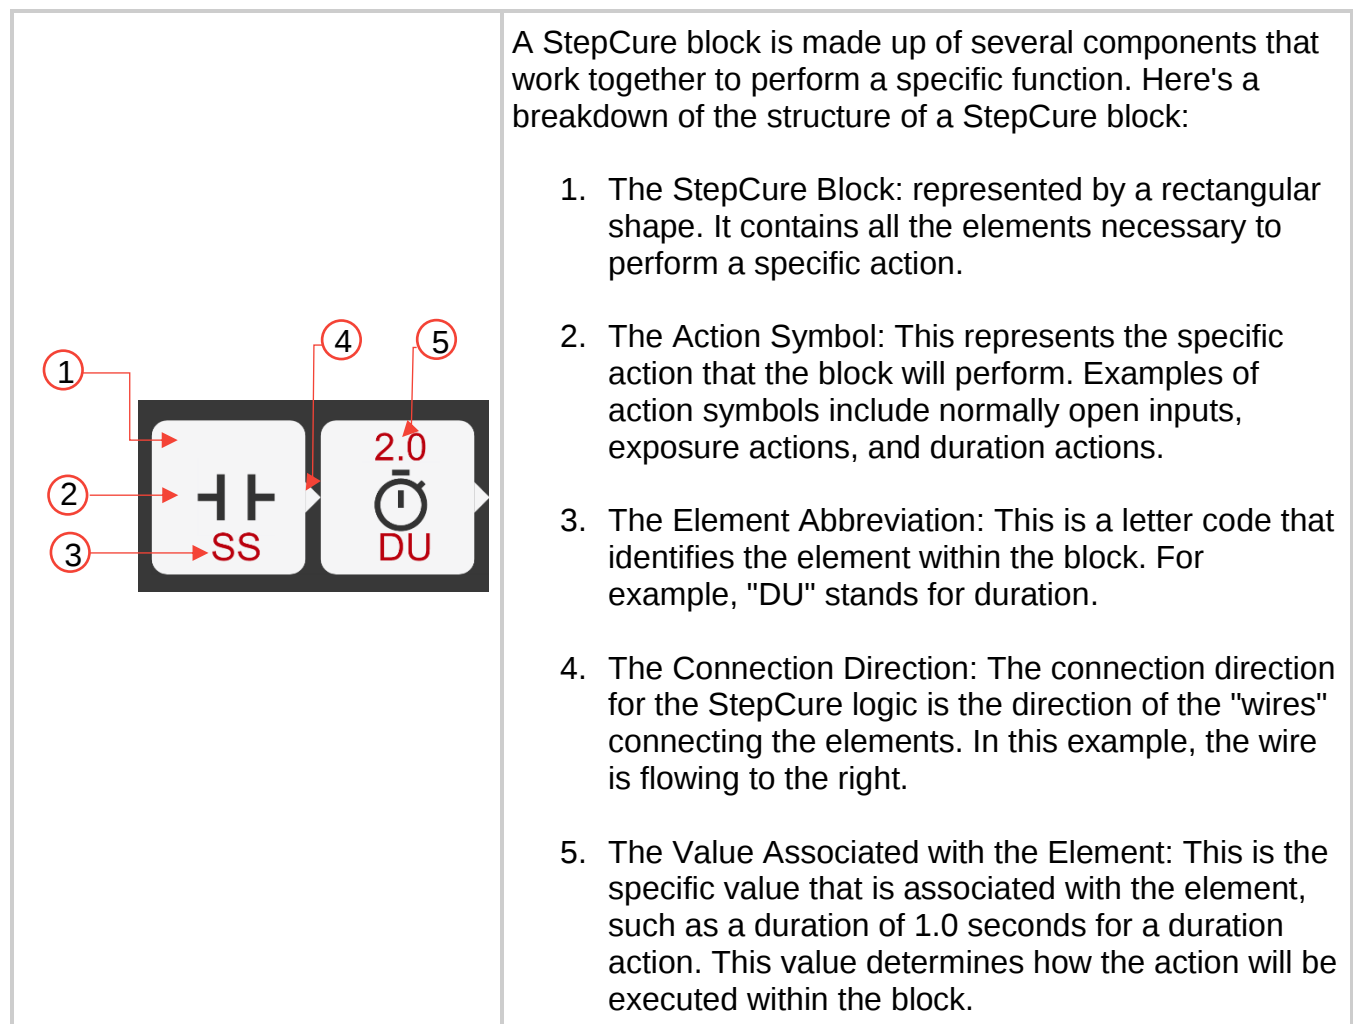

Figure 11-3 Structure of a StepCure block
See Figure 11-3 Structure of a StepCure block (4) for more details.